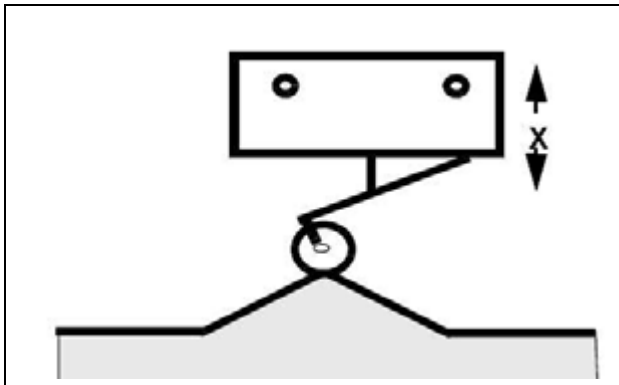

Fig. 5: Replacing the reference switch
- Move the drive in "unregulated motion" with the service PC (Adjustment, Calibration) in mm steps so that the corresponding reference switch is actuated (refer to (Fig. 5 / p. 36)). Check with DVM at D5.X2.A1...A11, 0V=X30.
- Adjust the reference switch by moving it in the X direction. The switch should activate within the mechanical limits of the switching hysteresis ((Fig. 5 / p. 36)).
- Continue to move toward the switch in inching mode ((Fig. 5 / p. 36)).